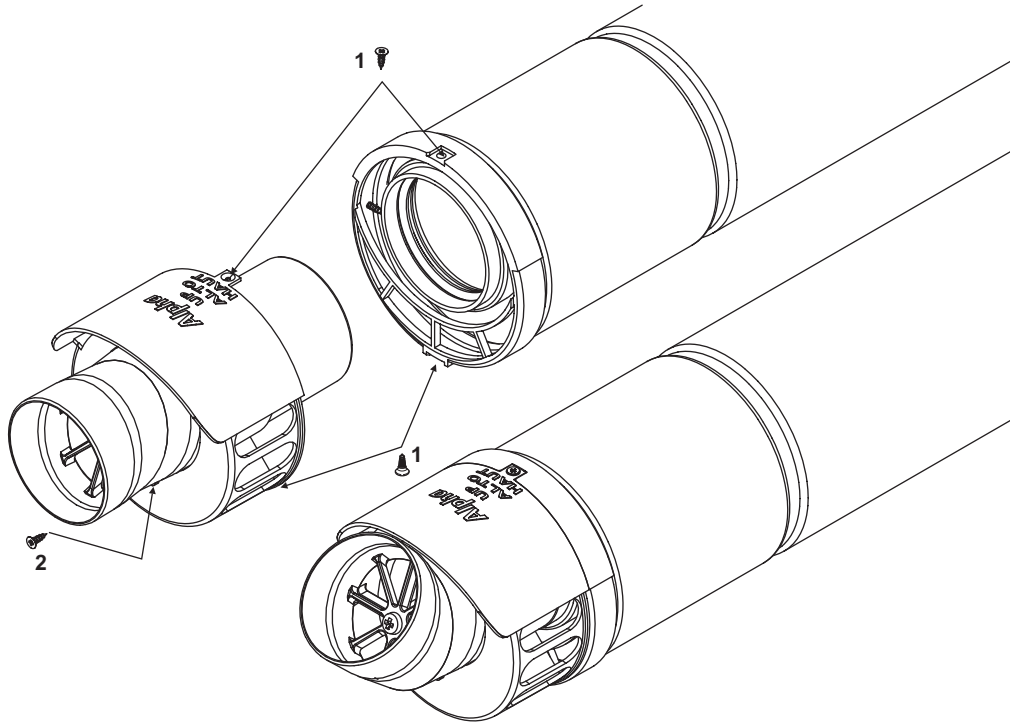

Fig. 8
- i. Remove the screws (1 in Fig. 8) securing the terminal and remove the terminal by pulling it from the flue assembly. Remove the screw (2 in Fig. 8) securing the terminal end section and remove the end section from the terminal.